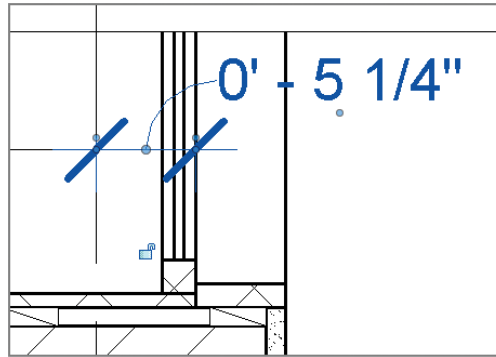

FIGURE 11.21 Modifying the text location
4. The dimension you just added doesn't read very well because it's located over the window sill. You need the dimension located there, but you can relocate the text. To do so, grab the blue dot under the text and drag the text string to the right. Once the dimension text is outside of the dimension string, Revit Architecture adds an arc associating the text to the dimension (Figure 11.21).